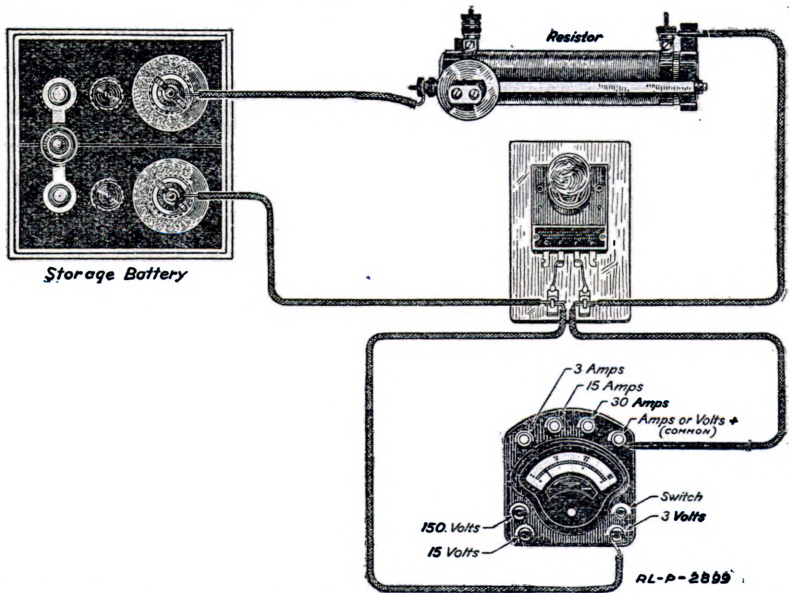

Fig. 13.—Method of connecting a resistor in series with a vacuum tube and storage battery.
*Resistors.*—If a certain length of resistance wire, for example, German silver wire, is inserted in a vacuum tube circuit in which a current is flowing, the pressure at the terminals of the tube will be reduced, and at the same time the flow of current through the tube will be reduced. If the length of the resistance wire is increased the voltage and current will be still further reduced. Fig. 13 shows a resistance inserted in series with a VT-1 vacuum tube and battery. The resistance in this case is a device known as a *resistor* or *rheostat*.
The resistor consists of a tube of insulating material upon which is wound a number of turns of German silver or composition resistance wire. The ends of the coil thus formed are fastened to connecting terminals attached to the ends of the tube. A fastening device at each end of the tube supports a slide rod placed above the coil. A slider makes connection between the slide rod and the resistance wire by means of a contact spring attached to the slider. The number of turns of resistance wire, in other words the length of the wire in use, may be varied by moving the slider. The storage battery in Fig. 13, is a 4-volt battery. The filament of the tube shown requires only 2.5 volts in order to burn at proper brilliancy.
8. Replace the 10-foot No. 32 wire with the 5-foot No. 18 wire so that the connections will be the same as originally made in Direction 4. Cut one of the 5-foot leads in the middle and remove the insulation from the ends of the wires. Connect these ends to the resistor exactly as shown in Fig. 13, making sure the slider on the resistor is placed at the terminal end of the rod. Press the button switch on the meter and note the reading. Note whether or not the filament of the tube is lighted.